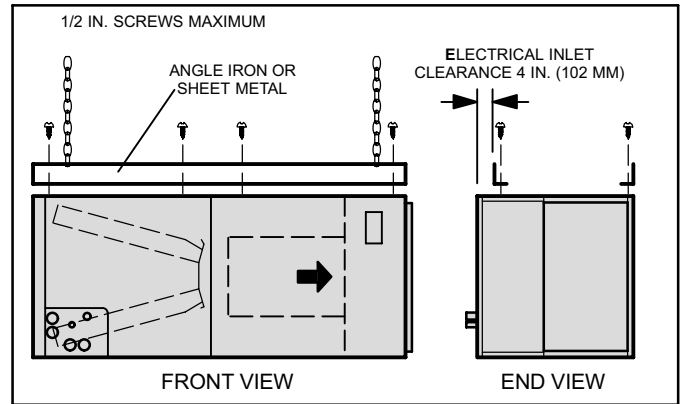

Figure 3. Suspending Horizontal Unit
- Step 4. If the unit is suspended, the entire length of the cabinet must be supported. If you use a chain or strap, use a piece of angle iron or sheet metal attached to the unit (either above or below) to support the length of the cabinet. Use securing screws no longer than 1/2" to avoid damaging the coil or filter as illustrated in figure 3. Use sheet metal screws to connect the return and supply air plenums as required.
- Step 14. If suspending the unit, it must be supported along the entire length of the cabinet. If using chain or strap, use a piece of angle iron or sheet metal attached to the unit (either above or below) so that the full length of the cabinet is supported. Use securing screws no longer than 1/2" to avoid damage to coil or filter. as illustrated in figure 3 on page 5. Connect return and supply air plenums as required using sheet metal screws.